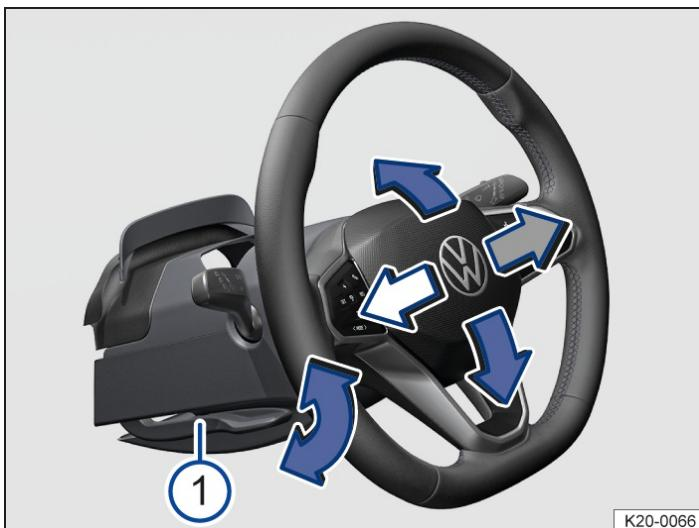

Fig. 1 Below the steering wheel in the steering column trim:
- Push down the lever → Fig. 1 ①.
- After adjusting the steering wheel, always move the lever → Fig. 1 ① up firmly. This prevents the steering wheel from moving accidentally while the vehicle is in motion.